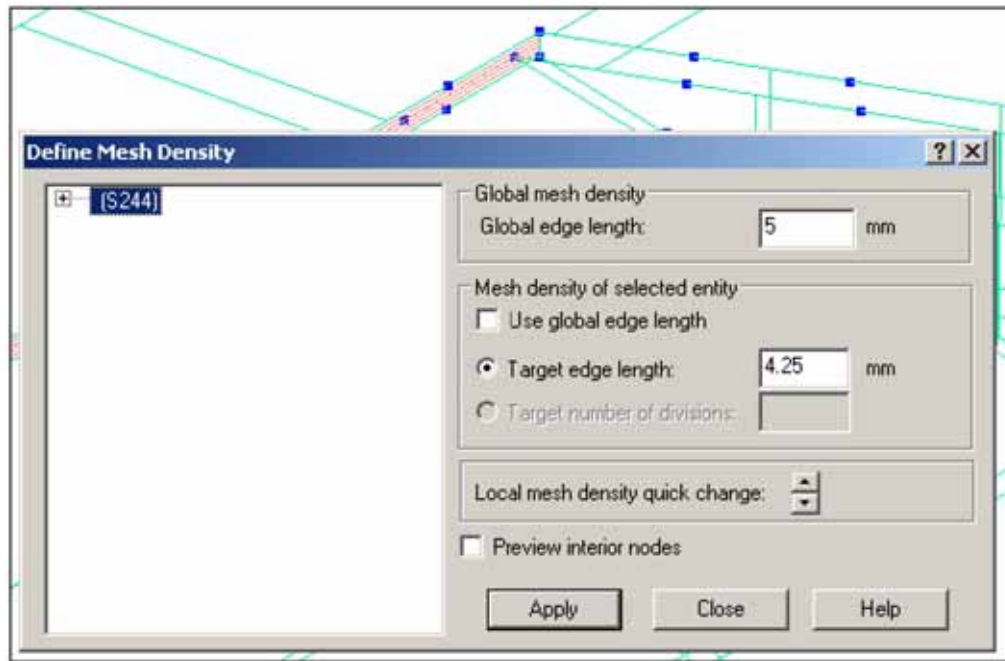

Figure 33: Setting the local mesh density
2. Zoom up on the lip. See Figure 33.